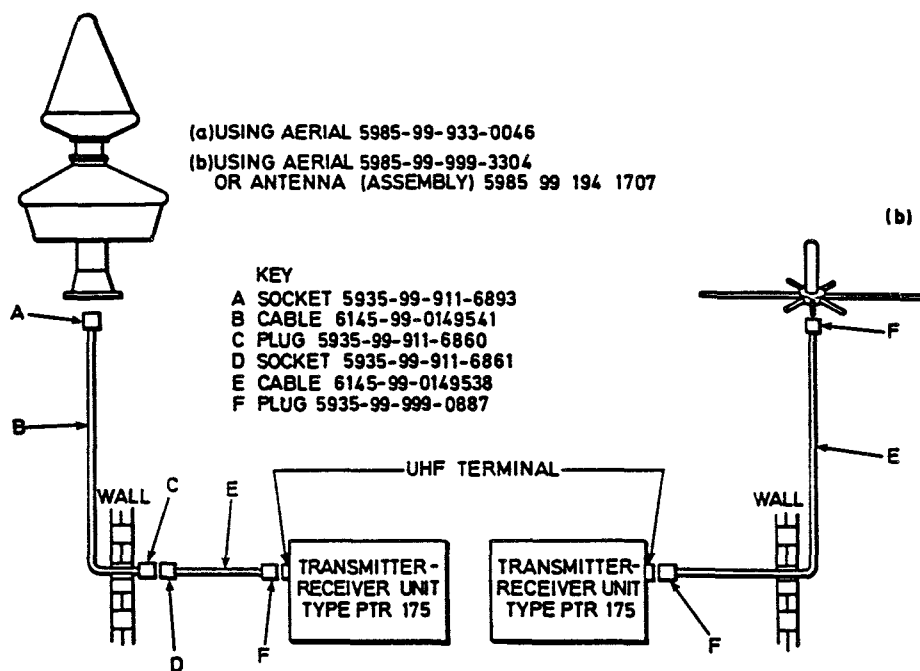

Fig 7 Typical UHF aerial installations
17 Both types of VHF aerial installation and the VHF aerial arrangement are illustrated in Fig 7.
24 Details of typical installations for both aerials are shown in Fig 7. Additional information for installations employing the more commonly used aerial, 5985-99-933-0046, is given in AP 116E-0253-1, Part 1, Section 4, Chap 1. In all installations, the length of the coaxial cable from the aerial to the transmitter-receiver should be kept to a practical minimum in order to reduce power loss.
26 Details of all rf cable connections to both types of aerial system are included in the aerial installation diagrams Fig 7 and 8. Termination connection of the installation wiring to the strips, connection, for the control units and the monitor jacks are detailed in Table 3 and 4 respectively.
- 1 TYPICAL AERIAL INSTALLATIONS, INCLUDING DETAILS OF PLUGS, SOCKETS AND R.F. CABLES, ARE SHOWN IN FIG. 7 AND 8